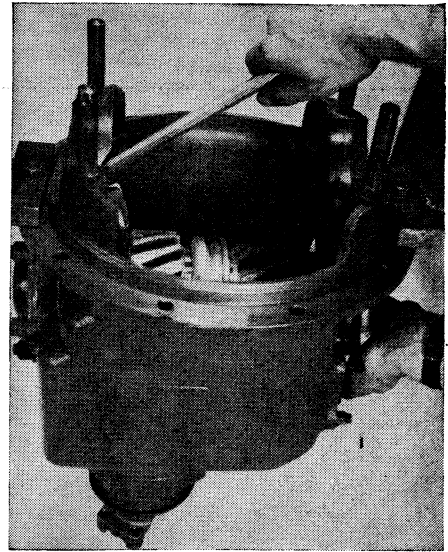

Fig. 17 Forcing bearing cage off with pinch bar
20. To remove the cross shaft assembly, force off bearing cage with a small pinch bar, Fig. 17, between the back of the bevel gear and carrier housing. (Puller screws are also provided.)